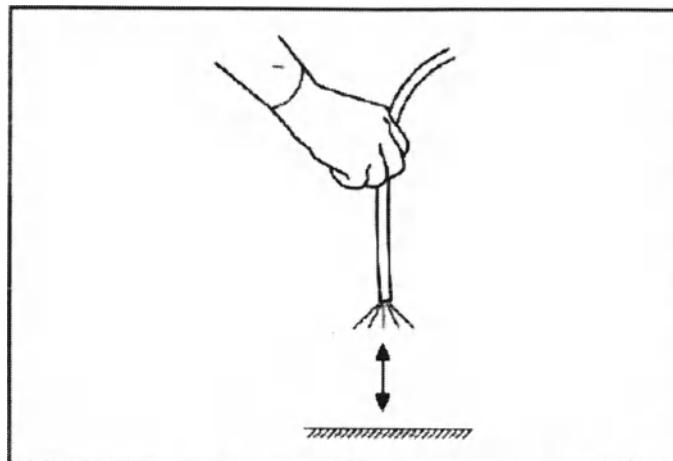

Fig 3.10
3. Point the endoscope's distal end to a suitable object, and move between 1 cm and 6 cm. Confirm that the brightness of the image on the LCD screen remains constant. (Fig 3.10)